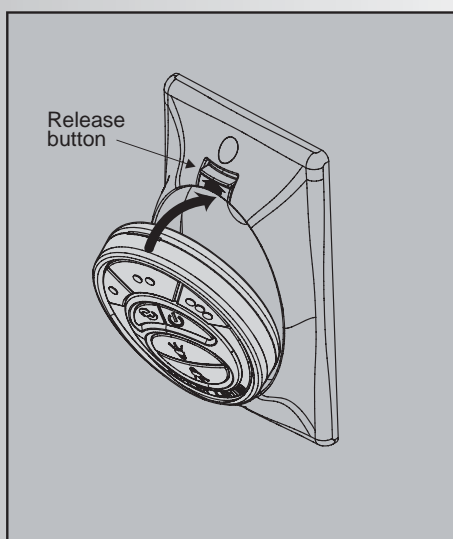

Fig. 27
1. To place the transmitter in the wall plate, put the bottom end in first and then press the top into the wall plate. The transmitter is now held in the wall plate and will function from here. (Fig. 27)